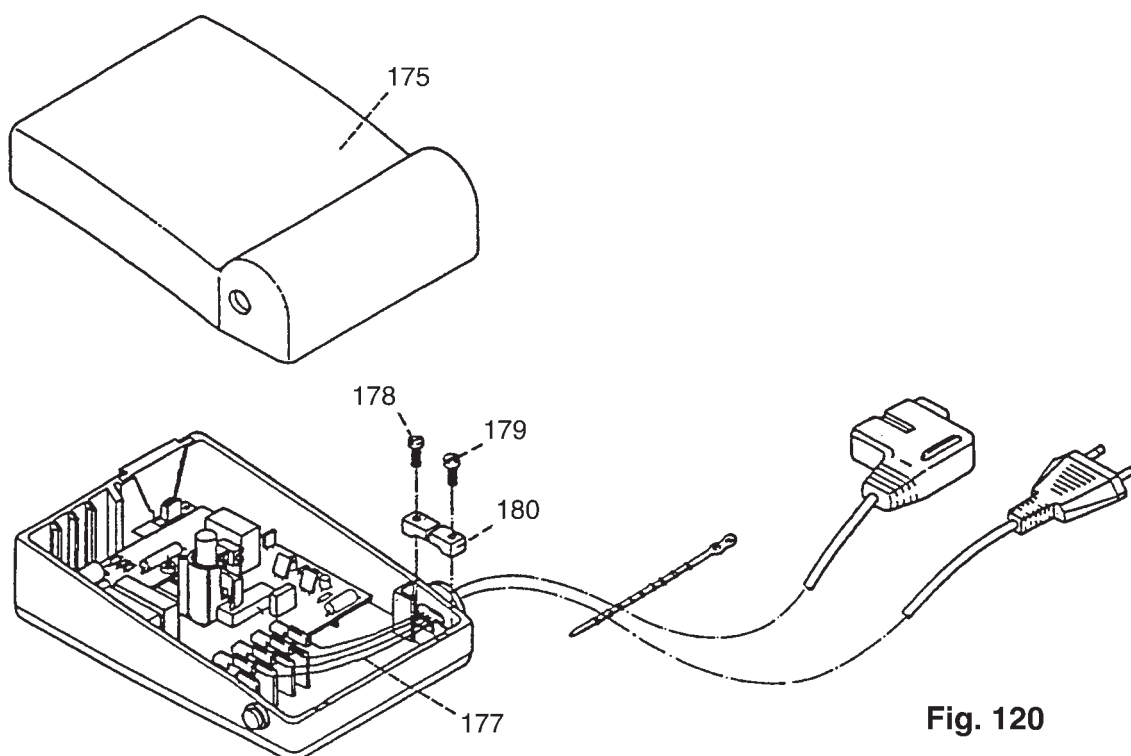

Fig. 120
- Insert a screwdriver with a wide blade on the side opposite to the cables (fig. 120).
- Carefully remove mains connection cables or machine cables 177 from the circuit board (fig. 120).